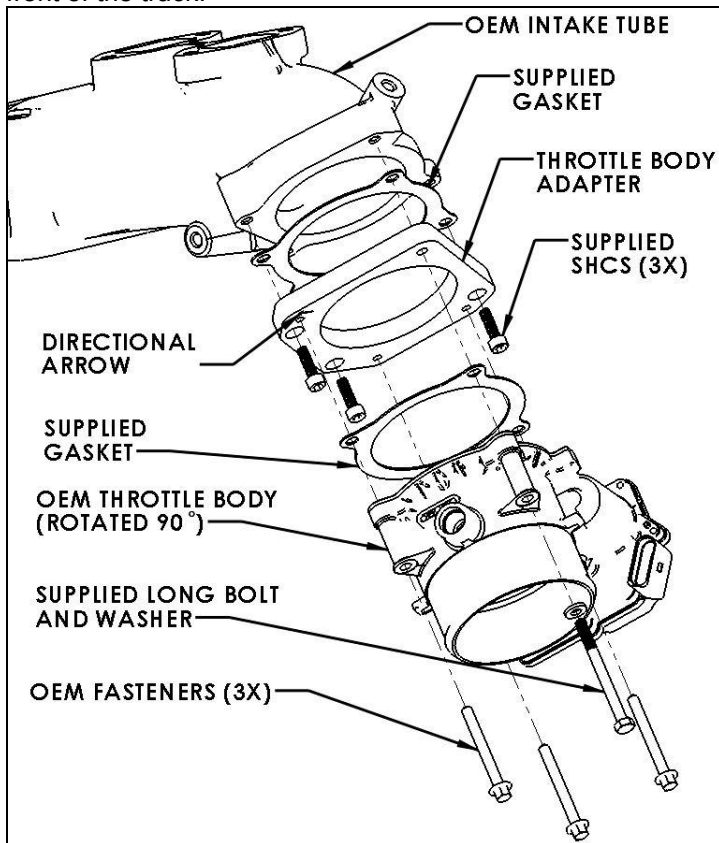

Figure 2.10
- ☐ Reinstall throttle body in 90° rotated position using throttle body adapter and supplied gaskets and hardware per Figure 2.10. Note that the engraved arrow on the adapter points towards the front of the truck.